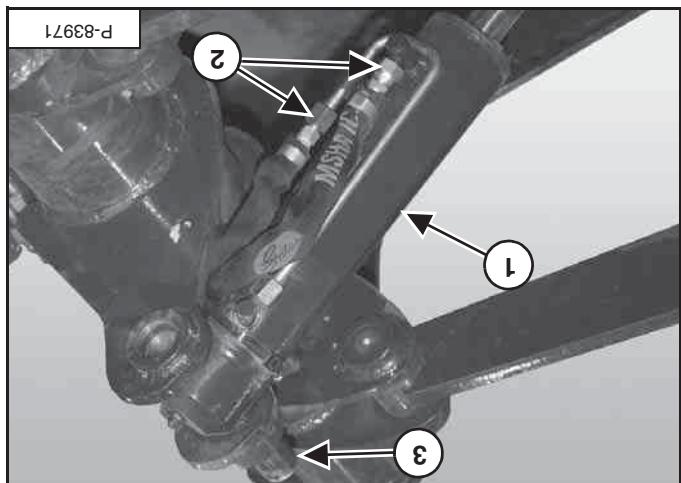

Figure 108
Finish removing mounting pin (item 3) [Figure 108] and remove the cylinder. Finish disconnecting the hydraulic lines (item 2) [Figure 108].